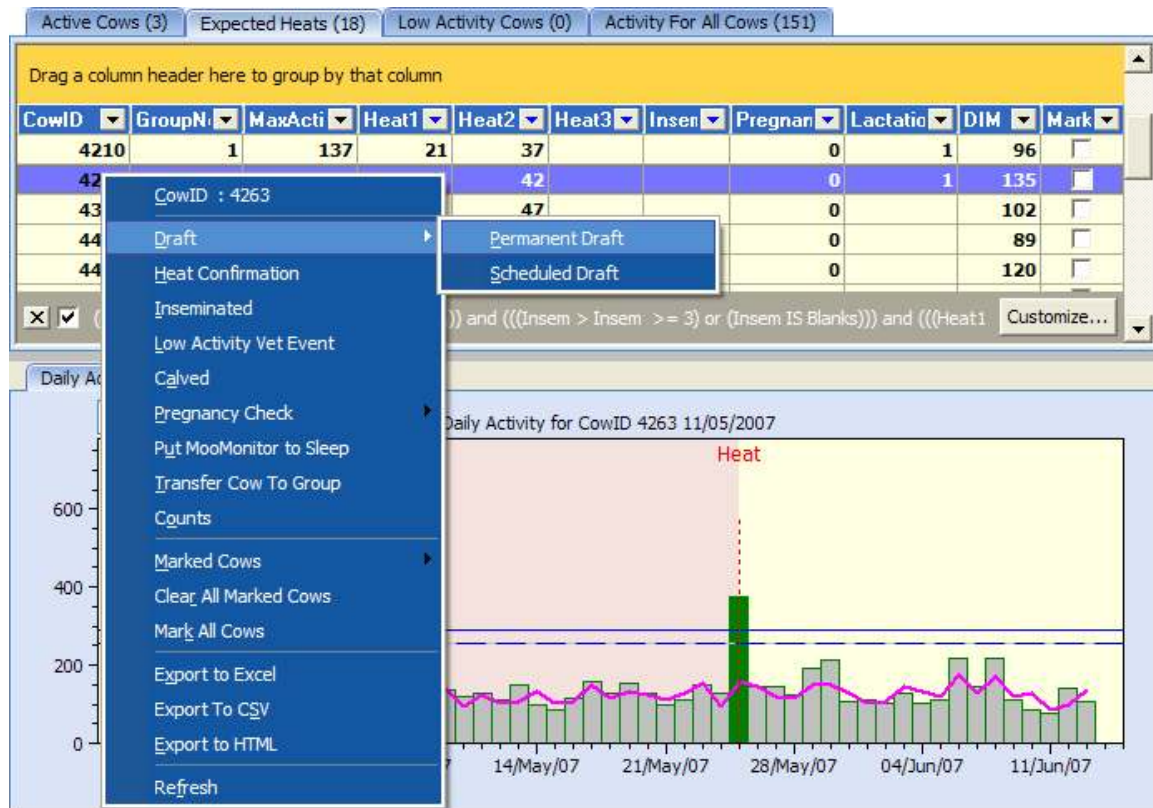

Figure 28 Right Click drafting options.
- Right click on the CowID that you wish to draft and select the 'Permanent Draft' option as shown in Figure 28 on the above.